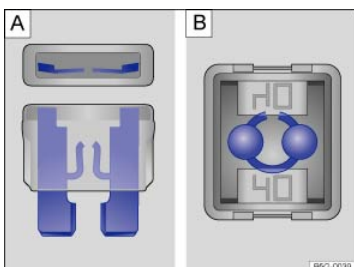

Fig. 173 Blown fuse: : Blade fuse. : JCASE® fuse.
- *For blade fuses (ATO®, MINI®):* Remove the fuse and shine a flashlight on it. This makes it easier to tell if the fuse has blown. A blown blade fuse has metal strips that have burned through, which you can see through the transparent housing from above and from the side ⇒ Fig. 173 A.
- *For cartridge fuses (JCASE®):* Shine a flashlight on the fuse. This makes it easier to tell if the fuse has blown. A blown cartridge fuse has metal strips that have burned through, which you can see through the transparent housing from above ⇒ Fig. 173 B.